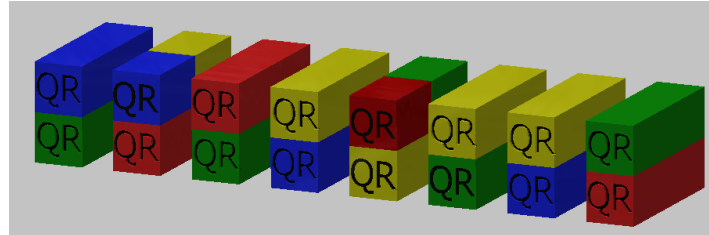

Figure 11: Shipping containers in zone B (two sizes, four colors, with QR code)\*
**Zone B** will have eight 1.5" x 1.5" x 2.5" shipping containers (two of each color: blue, green, red and yellow) and twelve 1.5" x 1.5" x 5" shipping containers (three of each color: blue, green, red and yellow). They will be placed in 2 rows and 8 columns, as shown in Figure 11.